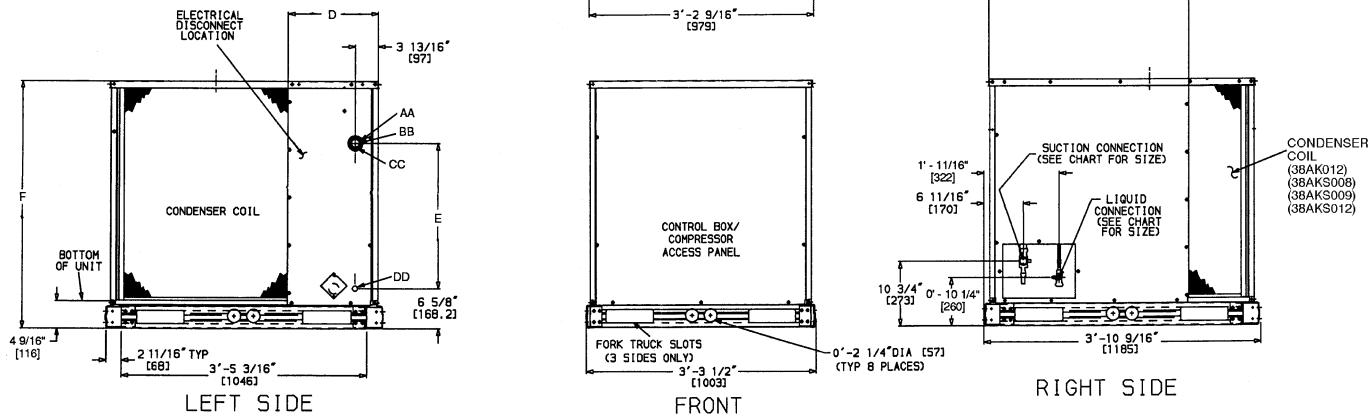

Fig. 2 — Dimensions (ft-in.)
- Allow sufficient space for airflow clearance, wiring, refrigerant piping, and unit servicing. See Fig. 2.
- Locate unit so that condenser airflow is unrestricted on all sides and above. Refer to Fig. 2.